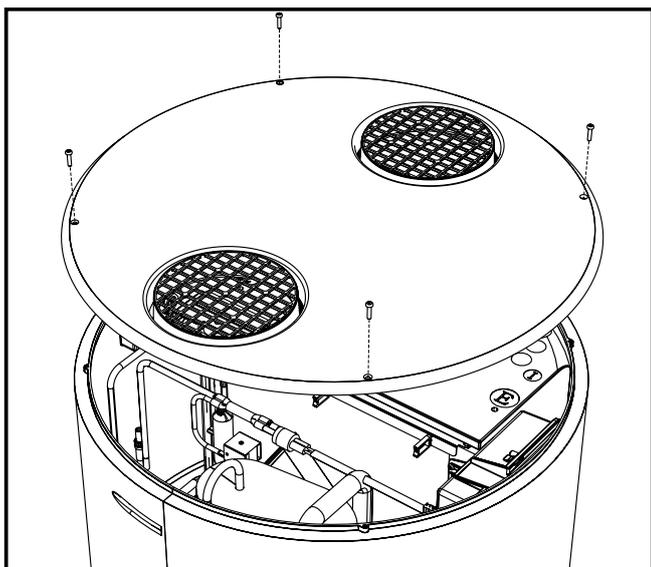

fig. 77- Top cover removal
- Remove the top cover by first undoing the locking screws (fig. 77).